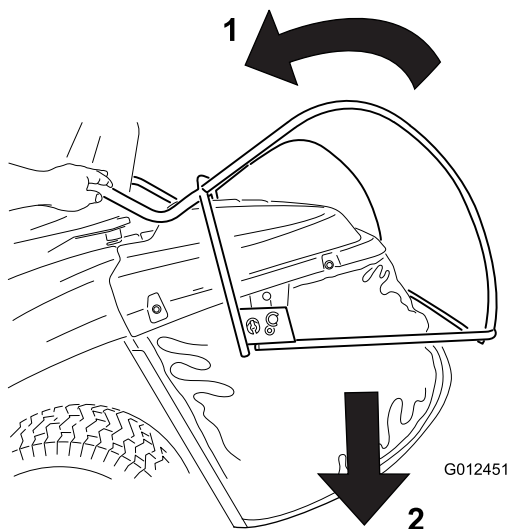

Figure 16
3. Pull the grass collector dump lever forward to tilt the grass collector (Figure 16).